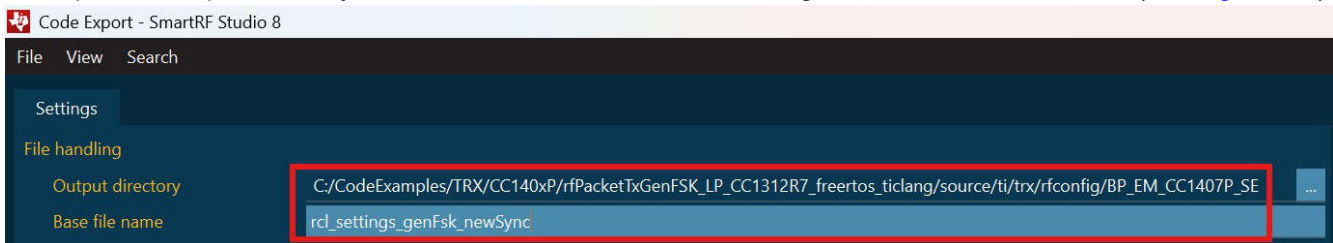

Figure 3-2. File Name and Location for Code Export
- Input the Output directory and Base file name for the new settings and select File->Save All (see Figure 3-2).